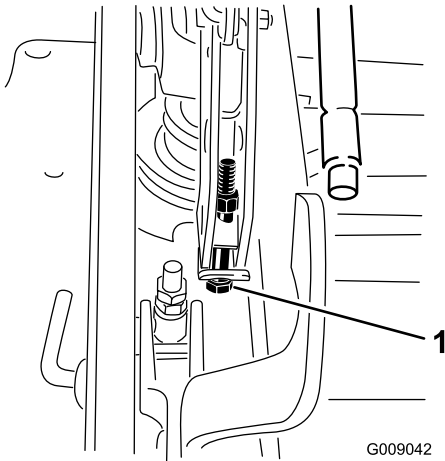

Figure 94
12. If the deck is too low, tighten the single-point adjustment bolt by rotating it clockwise. If the deck is too high, loosen the single-point adjustment bolt by rotating it counterclockwise (Figure 94).